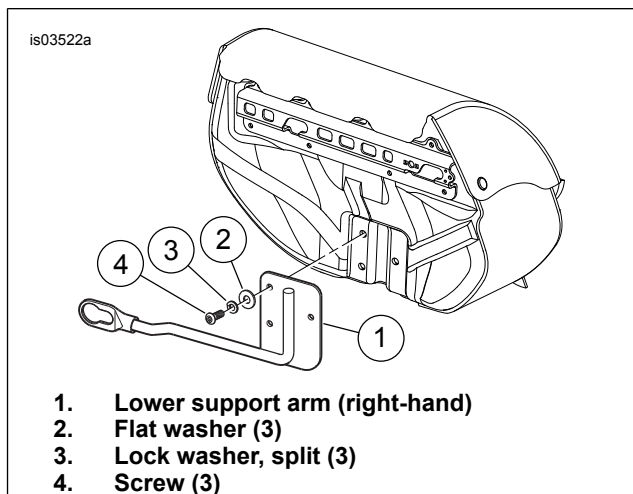

Figure 2. Install Lower Support Arm
1. See Figure 2. Apply Loctite 243 - Blue to threads of screw (4).
2. Loosely install lower support arm (1) on both saddlebags using three flat washers (2), split lockwashers (3) and screws (4). The lower support arm fits in slot on back of saddlebag. The hardware mounts the arm from inside the saddlebag.